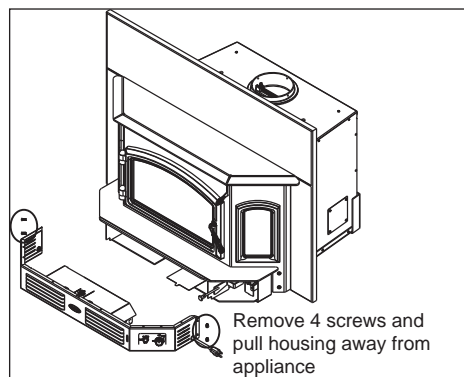

Figure 22.1
1. Using a 5/32 Allen wrench remove the 4 screws from the blower housing (2 on each side) and pull the housing away from the appliance. **Figure 22.1.**